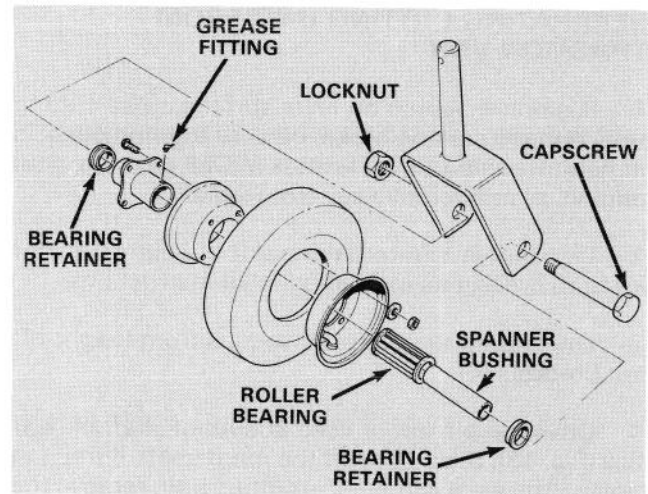

Figure 16
1. Remove locknut from capscrew holding castor wheel assembly between castor fork (Fig. 16). Grasp castor wheel and slide capscrew out of fork.
Note: Account for the two bearing retainers (Fig. 16).
2. Tip wheel to the side and allow roller bearing and spanner bushing to fall out (Fig. 16).
6. Pump more grease through grease fitting on wheel (Fig. 16) until bearing is greased thoroughly.